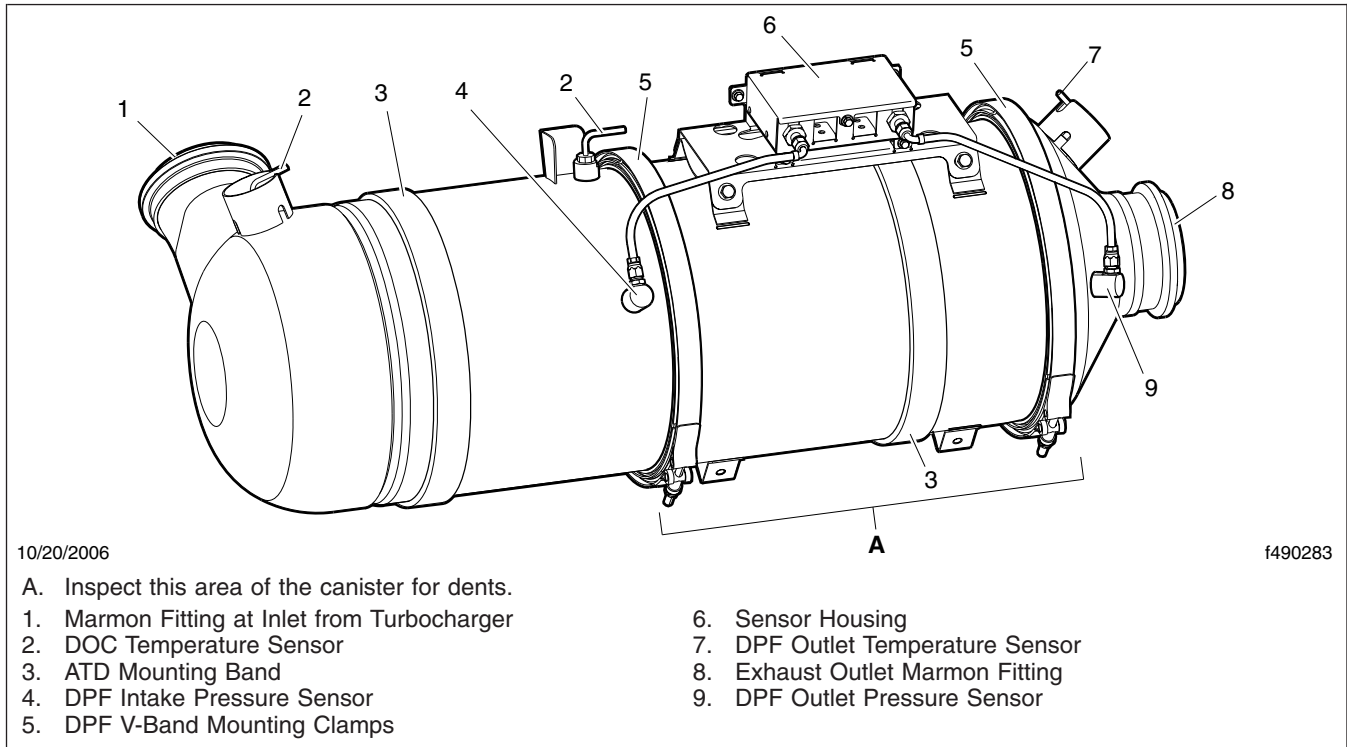

Fig. 4, Typical Aftertreatment Device
IMPORTANT: The aftertreatment device (ATD), which is part of the aftertreatment system (ATS), requires special attention during regularly scheduled maintenance inspections; see **Fig. 4**. No leaks are allowed anywhere in the system. If any discrepancies are discovered, refer to the engine manufacturer's service literature for repair instructions.
7. Check the DPF exterior surface for dents or other damage. See Item A of Fig. 4. A dent over 3 inches (76 mm) in diameter and 1/4-inch (6-mm) deep could cause internal damage to the DPF, causing it to malfunction.